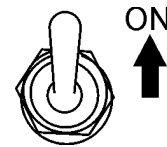

Figure 14. Operation Switch (ON)
4. Place the generator's operation switch (Figure 14) in the **ON** position.